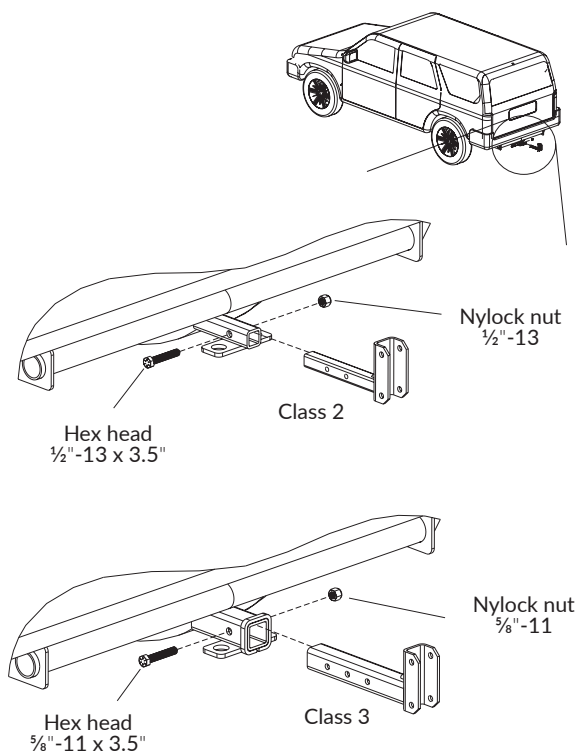

Figure 4-9
1. Insert the hitch adaptor into the receiver on the vehicle's hitch. Secure the adaptor according to the hitch class. *See Figure 4-9.*
1. Fasten the hitch adaptor to the vehicle hitch. *See Figure 4-9.*